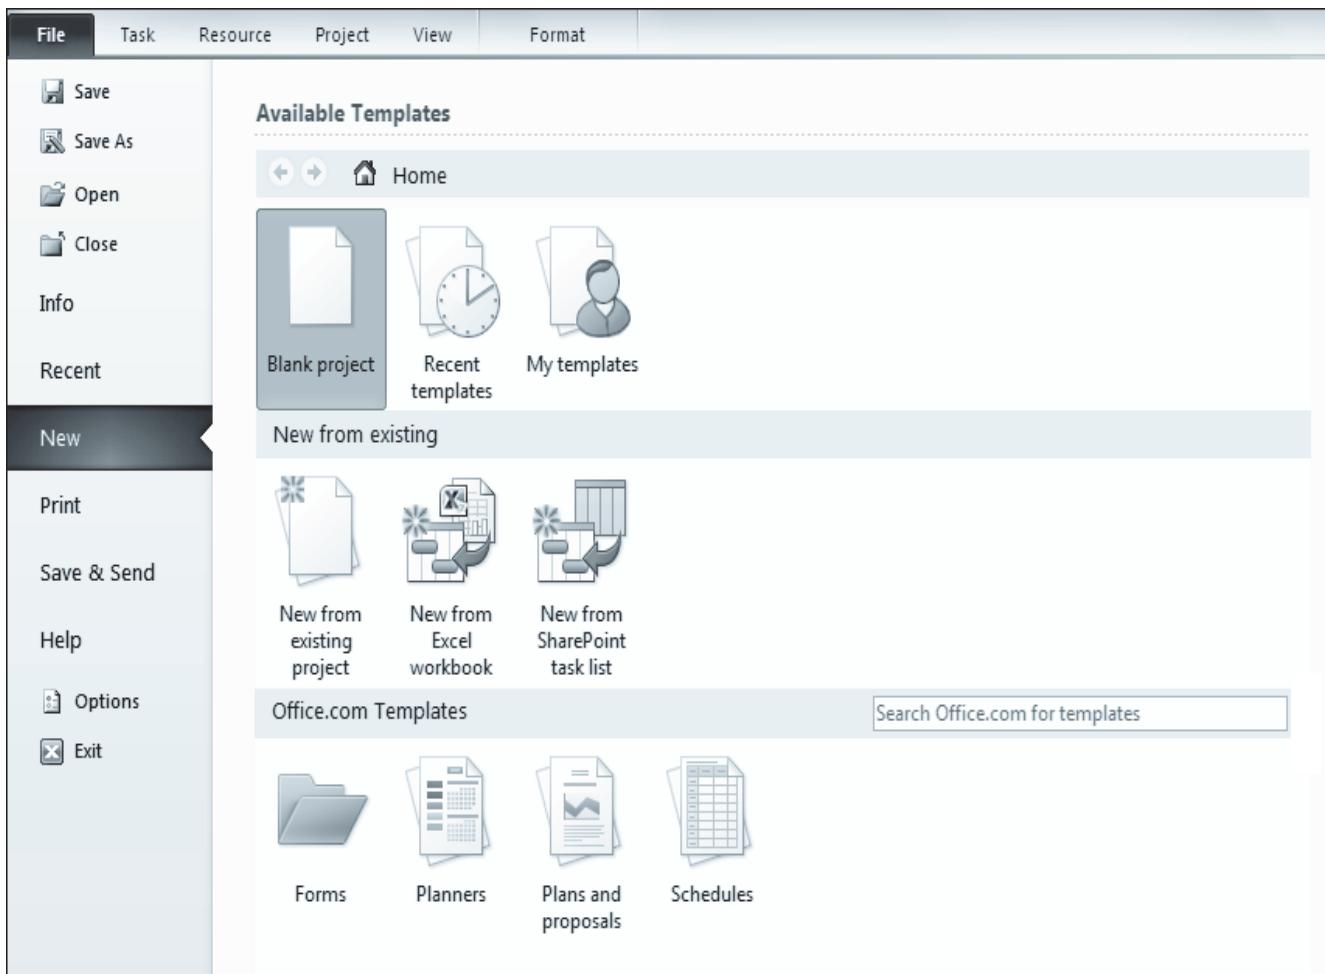

Figure 2.2: Creating Project Based on Available Templates
2. From the **Backstage** view, select **New**. This displays the **Available Templates** screen, as shown in figure 2.2. Here, under the **Office.com Templates** section, a user can select a template category and then select the template that suits the project needs.
Figure 2.2 depicts MS Project templates that are displayed while creating a new project.